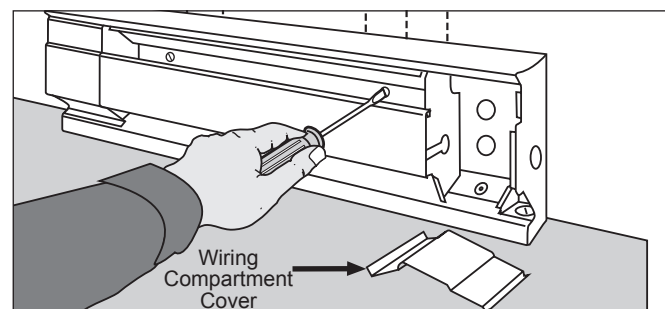

Figure 5
5. Mount the heater securely to the wall with nails or screws going into at least two wall studs (See Figure 5). The back of the heater has "star punch" dimples that allow nails or screws to easily pierce the sheet metal.